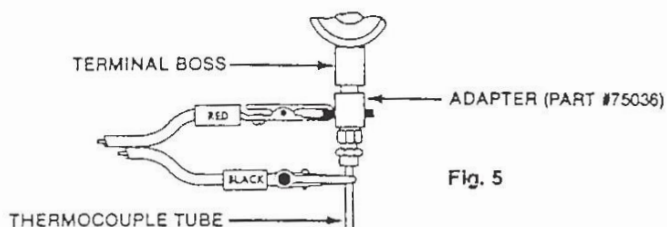

Fig. 5
6. (See Fig. 5). Test magnet and thermocouple as follows: